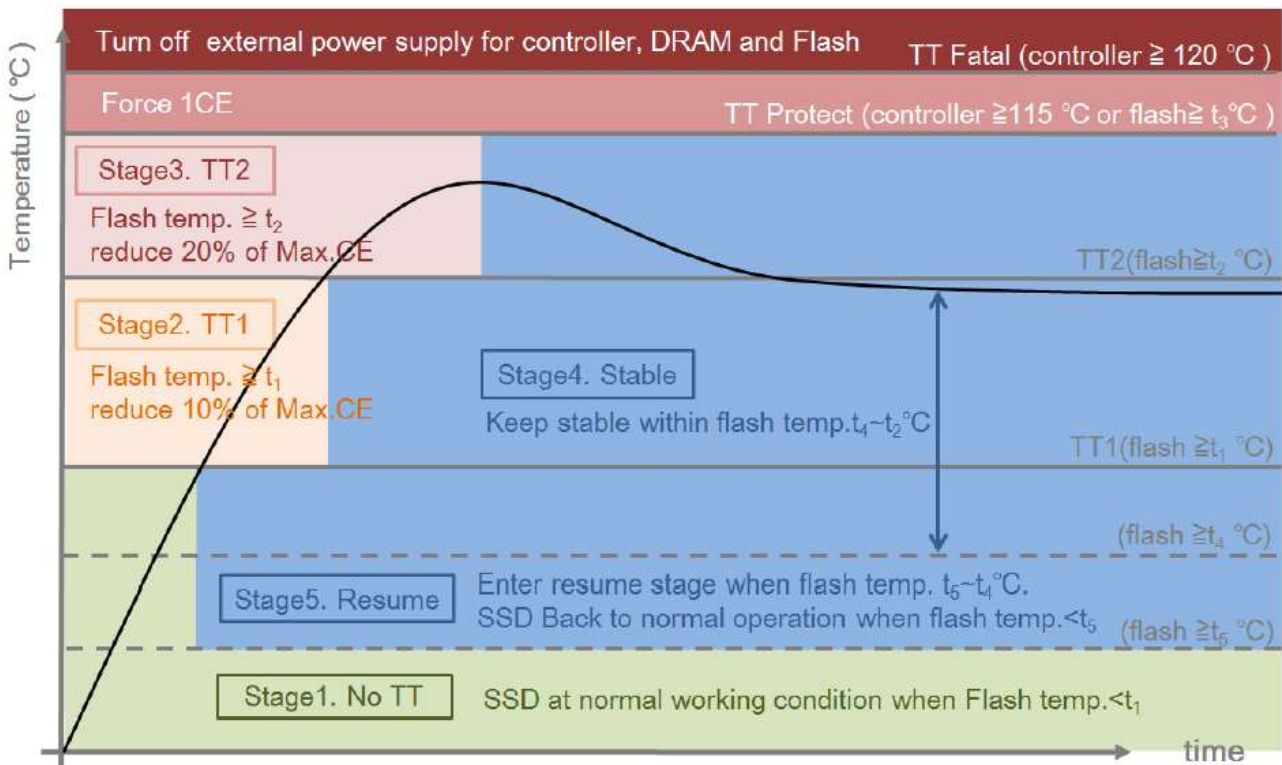

Figure 2-1 Thermal Throttling Schematic
1. TT shown on Figure 2-1 means “Thermal Throttling”.